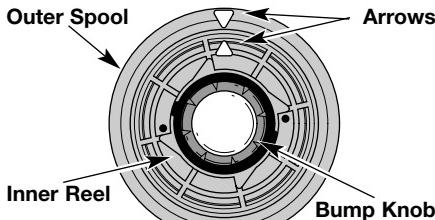

Fig. 19
3. Line up the arrow on the inner reel with the arrow on the outer spool (Fig. 19).
3. Pull the inner reel with existing line from the outer spool (Fig. 19).